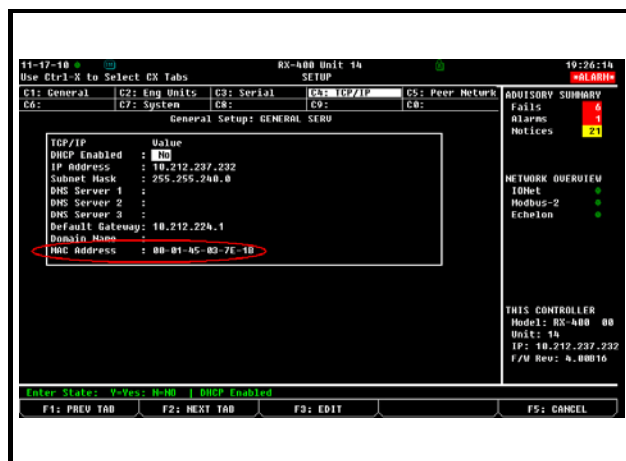

Figure 10-33 - TCP/IP Screen - Locating the Mac Address
3. Press **#3** (TCP/IP Setup) to open the TCP/IP Setup screen and locate your E2's MAC address (circled in *Figure 10-33*):